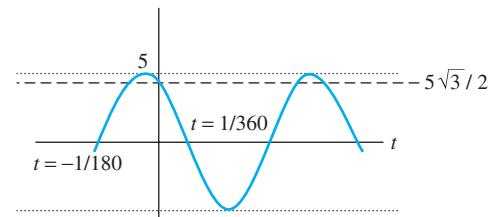

FIGURE 6.6 Figure for Example 6.3, part (c).
- c. $v(t)$ is sketched in Figure 6.6. Note that the point that the signal crosses the x -axis is the point at which the voltage is zero. Finding these points helps to sketch the sinusoid. Equating the voltage to zero:
This equation can be used to find the zero (x -axis) crossing points. For example, for $k = -1$, $t = -1/180$ as shown in the figure. Note that $\pi = 180^\circ$, which can be used to simplify the calculations. In addition, for $k = 0$, $t = 1/360$. The cross section with the y -axis also helps to sketch Figure 6.6. This point occurs when time is set $t = 0$. Note that $\cos 30^\circ = \sqrt{3}/2$; thus, at this point, the amplitude is $5\sqrt{3}/2$, as shown in Figure 6.6 using a dashed line.